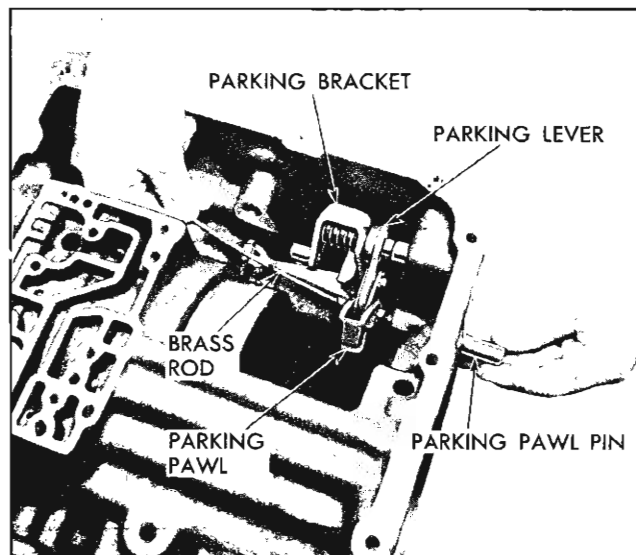

Fig. 7D-67 Removing Parking Pawl
1. Remove parking pawl pin from transmission case by pushing on inside end of shaft with  $\frac{1}{8}$ " brass rod (Fig. 7D-67).